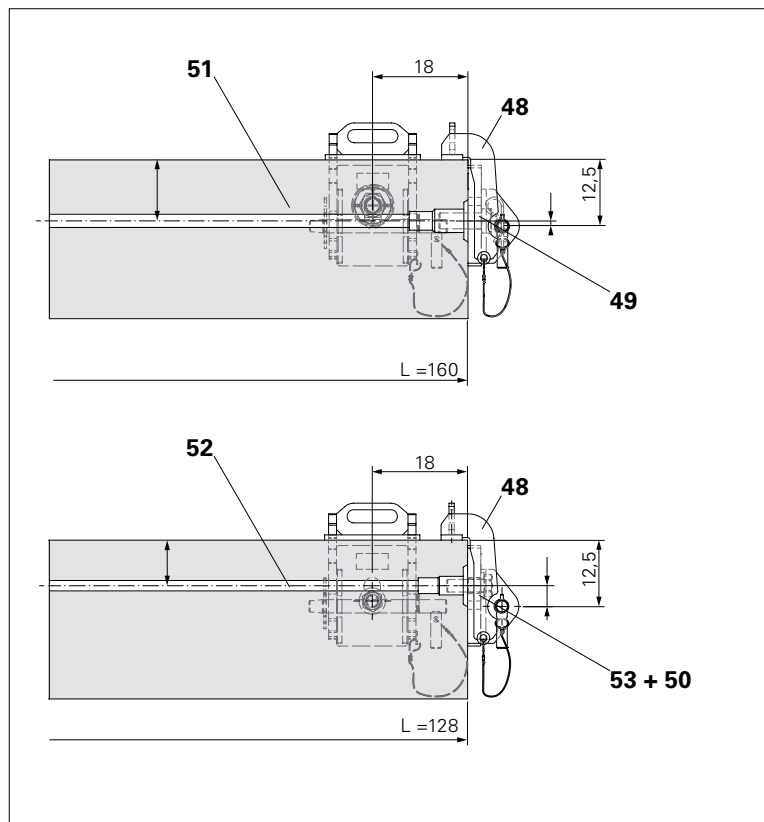

Fig. B4.03
The Slab Stopend Shoe RCS (48) is fixed according to the anchoring type with corresponding bolts M30x70 (49) or bolt M24x70 (53) and reducing bushing Ø30-25 (50) to the Slab Stopend Anchor M30/25-160 (51) or M24/20-128 (52). (Fig. B4.03)